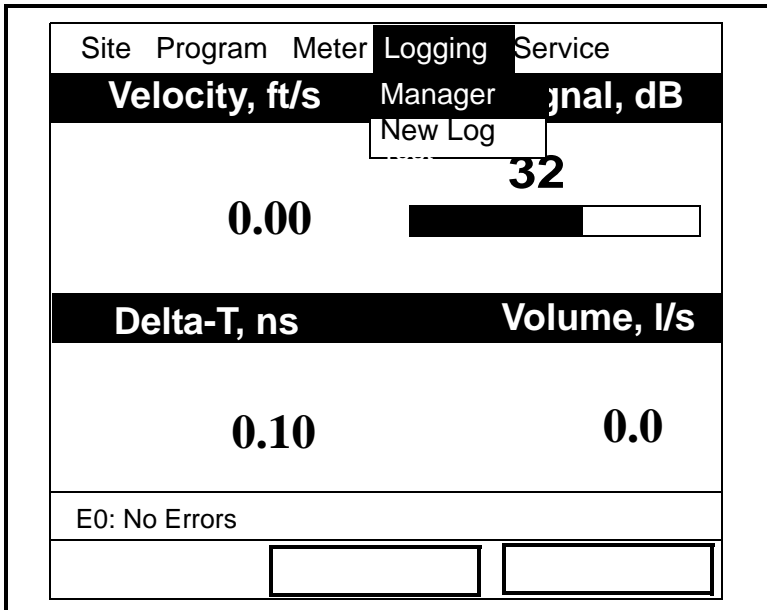

Figure 8-1: The Logging Menu
To enter the Logging Menu, press the [MENU] key at the lower right of the PT878GC keypad. The Main Menu replaces the Status Bar at the top of the screen. Press the [▶] arrow key three times to scroll from the Site Menu to the Logging Menu. At the Logging Menu, press [ENTER]. The screen appears similar to Figure 8-1 below. Refer to Figure A-9 on page A-9 of Appendix A, *Menu Maps*.
- by scrolling to the New Log option in the Logging Menu (as shown in Figure 8-1 on page 8-2) and pressing [ENTER], or